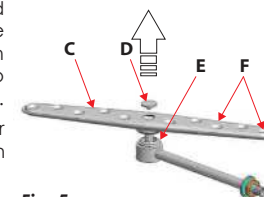

Fig. 5
- Remove the arms (C) by loosening the fixed screws (D) and thoroughly clean them and the nozzles (F) under the running water (Fig.5).
- Make sure the holes and slots (F) are not blocked by dirt residues. If they are, use a sharp object to push the dirt to the inside of the wash arms and then rinse them under running water.
- Re-assemble the wash arms (Fig.5) and reposition them firmly in place with the relative screws (D). Make sure they spin freely. If this is not occurring then check to make sure the (E) ring is properly in position.